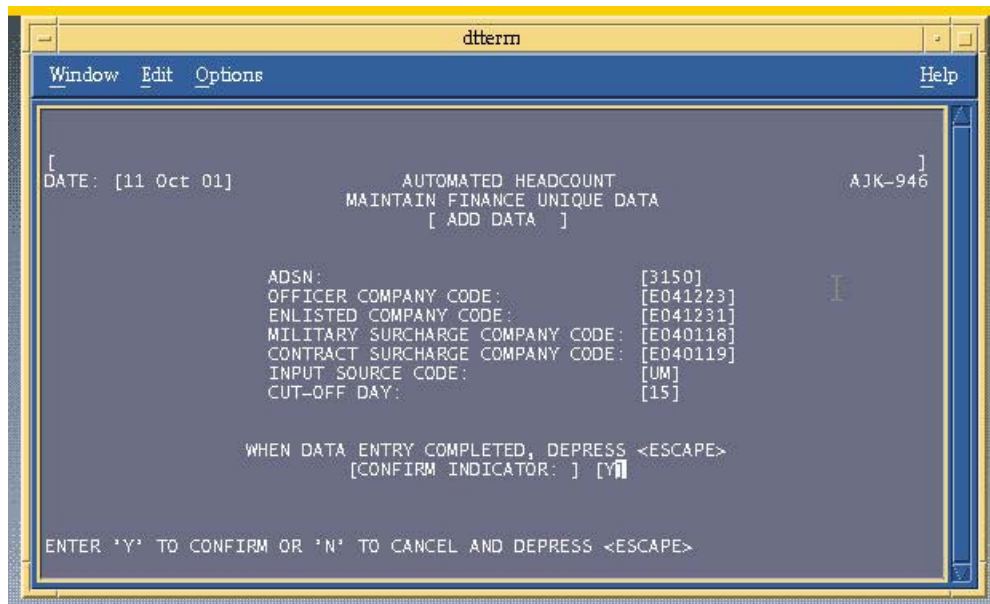

Figure 8.5-13 Maintain Finance Unique Data AJK946
2. Press the “Esc” key and figure 8.5-13 will appear